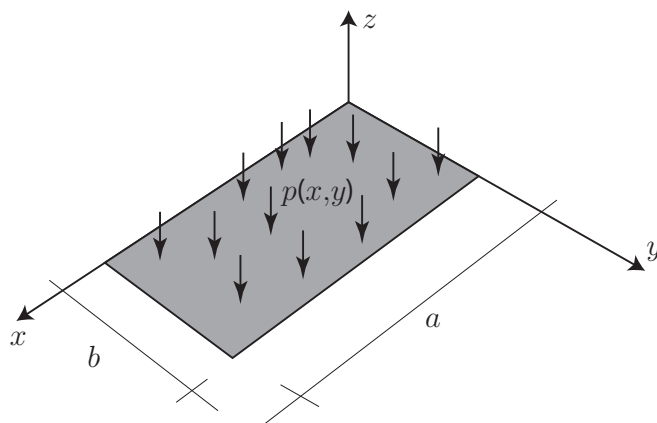

Figure 14: Problem 14.
14. A plate as shown in Fig. 14 is subjected to a distributed normal pressure load $p(x, y) = Axy^2$. Find the equivalent point force system to this distributed load, its magnitude and the location where it acts.